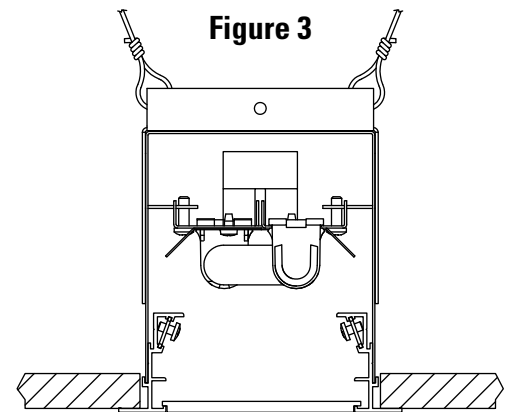

Figure 3
- F. Install all diffusers provided with fixtures. (Fig. 3)
- I. Install all diffusers provided with fixtures. (Fig. 3)